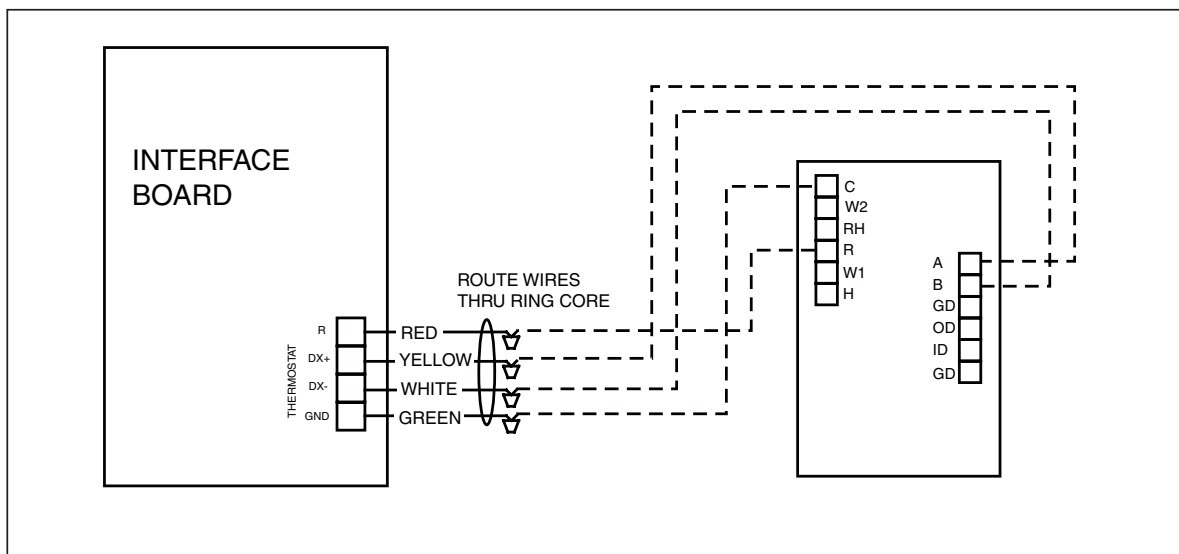

Figure 22. Thermostat wiring in field
Furnace is factory configured to operate on low and high fire – two stage mode configurations. The second stage will function based on the program settings in the thermostat controller. The furnace integrated control board consists of two boards – main and add-on boards. The two boards are pre-wired with the furnace interface board. The IQ thermostat controller requires wiring to the interface board in the field (see Figures 22 and 25).
- a. Two stage heating: (see Figure 22): Programmable controller thermostat for the two stage heating should be wired as wiring diagram shown in Figure 22. On a call for first stage heat, inducer runs for 30 seconds pre-purge at high speed. The furnace will operate on low fire and both the inducer and main blower will operate at low speed. On a call second stage heat based on programmed timing or differential temperature, the furnace will operate at high fire and both inducer and main blower will operate at high speed.
2. The thermostat wires (A, B, C and R) are securely connected to the correct leads on the terminal strip of the interface board. (R, DX+, DX- and Gnd. (See Figure 22.)